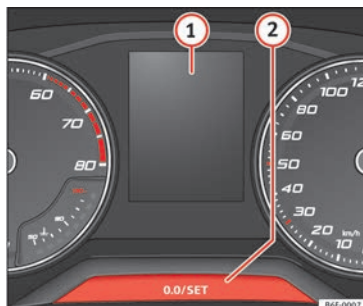

Fig. 51 Instrument panel
The service interval indication appears on the instrument panel display »» Fig. 51 ①.